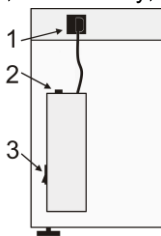

Figure 13.
8.2.2. Fuse for the mains outlets (for models with built-in mains outlets). Disconnect the unit from the electric circuit. Open the fuse holder by screwing off the holder lid (fig. 13/2 or 14/FU1). Check the fuse and replace, if necessary, see 6.3.